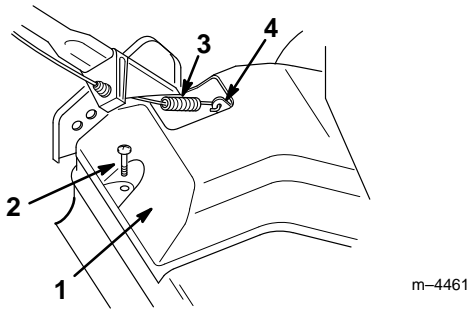

Figure 31
- Remove the screw from the belt cover (Fig. 31).
- Unhook the cable spring from the drive bracket (Fig. 31).